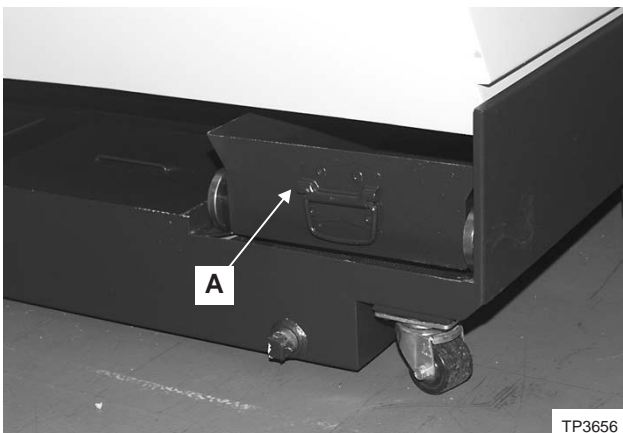
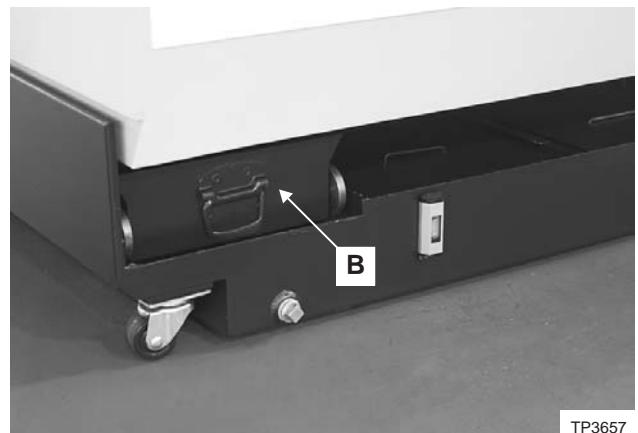

Figure 3.1 - Left Side Chip Tray
Figure 3.2 - Right Side Chip Tray
4. If the machine does not have a chip conveyor, carefully slide chip tray "A", Figure 3.1, and "B", Figure 3.2, out the side from the corners of the coolant tank.